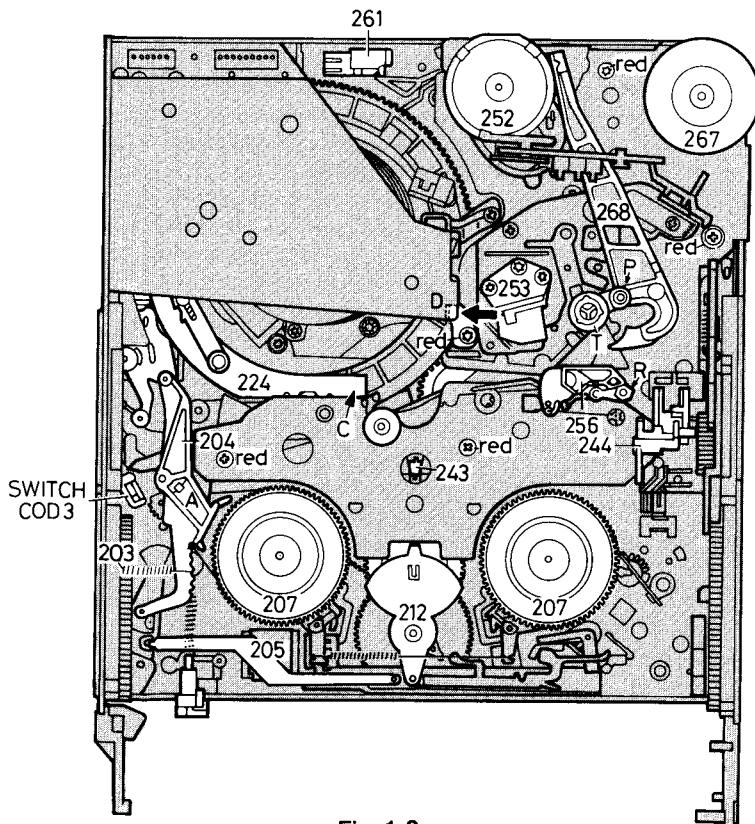

Fig. 1-8
- Unhook spring pos. 203 (Fig. 1-8).
- Pull away the tape tension lever pos. 204 after unlocking it by A.
- Thread in halfway C (Fig. 1-8).
- Demount drive belt pos. 239.
- Unscrew the red fixing screws of the top plate. 4x 'plastite' screws, 1x 'taptite' screw (Fig. 1-8).
- After mounting the top plate, screw down the upper track bearing until the axle is touched T (Fig. 1-8); then loosen half a turn; check axial play.
- Readjust the capstan servo pick-up head pos. 273 according chapter 2.5.